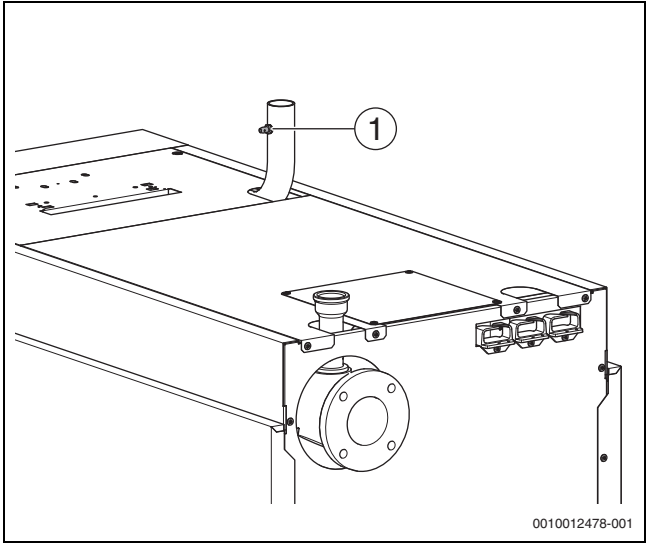

Fig. 28 Purging the gas line
- ▶ Release the locking screw of the gas supply pressure and ventilation test nipple (→ Fig. 28, [1], page 26) by turning it through 2 revolutions.